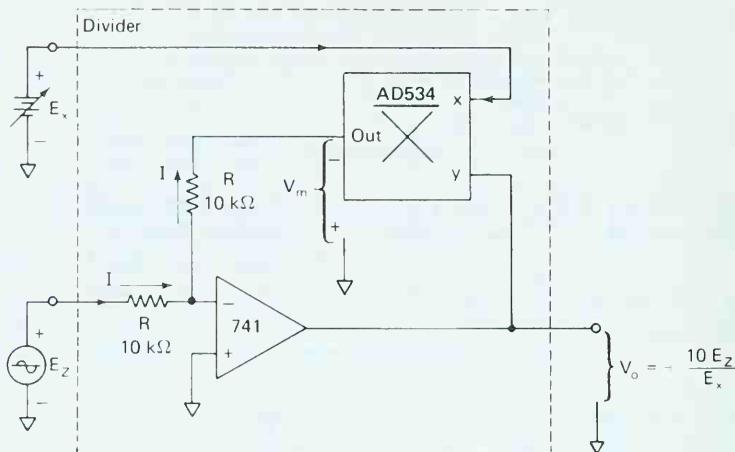

FIGURE 12-17 Division with an op amp and a multiplier.
An analog divider will give the ratio of two signals or provide gain control. It is constructed as shown in Fig. 12-17 by inserting a multiplier in the feedback loop of an op amp. Since the op amp's (−) input draws negligible current, the current I is equal in the equal resistors R . Therefore, the output voltage of the multiplier V_m is equal in magnitude but opposite in polarity (with respect to ground) to E_Z or
- 12-14.** $E_x = 10 \text{ V}$ and $E_z = -1 \text{ V}$ in Fig. 12-17. Find V_o .